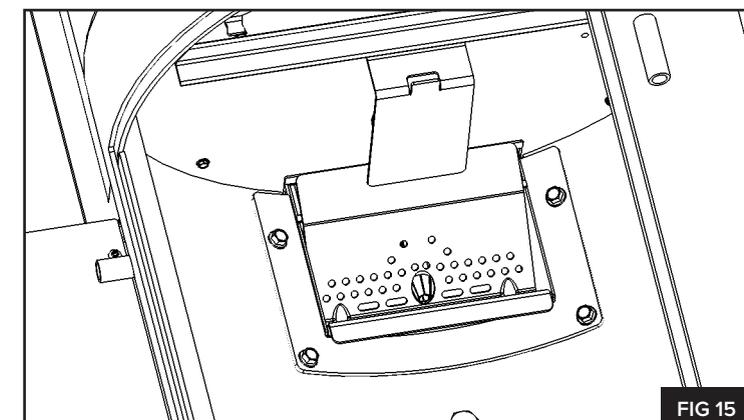

FIG 15
6. Re-install the burn grate **(FIG 15)**. Begin by resting the right hand side of the burn grate on the fire box and then lowering the left hand side of the burn grate until fully seated. When the burn grate is properly seated it rests firmly on the right hand side of the firebox and fits close to the hopper wall. Finally, ensure the igniter assembly is centered in the respective hole in the burn grate.